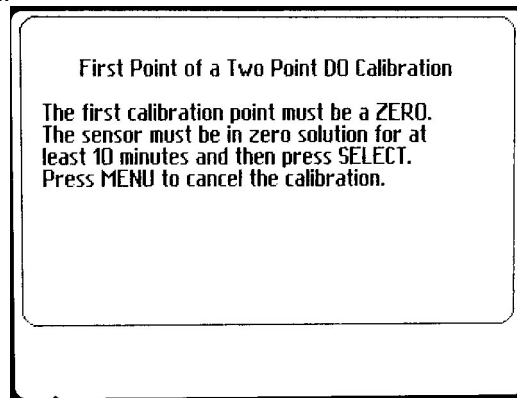

Figure 27 - First Point of a Two Point D.O. Calibration
- The FIRST POINT OF A TWO POINT D.O. CALIBRATION screen (Figure 27) will appear. Once the sensor has been in the zero solution for at least 10 minutes, press SELECT to perform the first calibration point. The PT2 will return to the CHANNEL CAL menu screen.